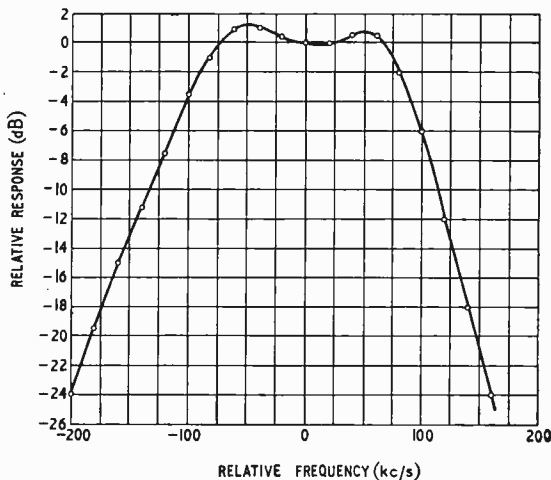

Fig. 6. Overall frequency response preceding limiter.
**I. F. Amplifier and Discriminator.**—Disconnect the a.g.c. line from  $C_{40}$  and connect it to a potential divider consisting of 10 k $\Omega$  from the supply and 1.5 k $\Omega$  to chassis. Short-circuit  $L_8$ , replace  $C_{40}$  by a 100-pF capacitor and connect the junction of this and  $R_{19}$  to an oscilloscope via a 10-k $\Omega$  resistor. Connect a f.m. signal generator, using a 0.01- $\mu$ F isolating capacitor, to the collector of V5. Set  $C_{33}$  to half-capacitance and tune  $L_6$ ,  $L_7$  and  $T_4$  for maximum response at 10.7 Mc/s. Increase  $C_{33}$  in stages, adjusting  $L_6$  and  $L_7$  until the response curve is just over-coupled and adjustment of either  $L_6$  or  $L_7$  produces a tilt of the response symmetrical about the centre frequency. Transfer the signal generator connection to the base of V4, set  $C_{22}$  half way and tune  $L_3$ ,  $L_4$  and  $L_5$  for maximum at 10.7 Mc/s. Increase  $C_{22}$  in stages till the response shows 1-dB peaks at 10.7 Mc/s  $\pm$  60 kc/s, as shown in Fig. 6, and responds to adjustment of  $L_3$  and  $L_4$  by a symmetrical tilt. At each adjustment, vary the input level to ensure that the last i.f. stage, V7, is not over-loading. Replace  $C_{40}$ , insert a 1-mA meter in series with  $R_{19}$ , measure the response point by point and compare with Fig. 6.